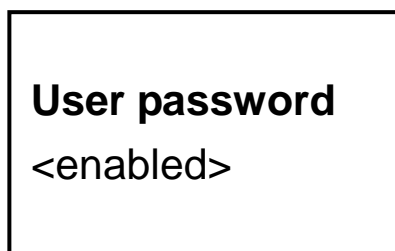

Fig. 4-10
- 4). After entering the password, press  button. LCD will display the submenu of “**Settings**” (Fig. 4-10).
After you access the “**Settings**” submenu, LCD displays as Fig. 4-10. The value of “**User password**” will be “<enabled>” or “<disabled>”. And “<enabled>” means you can change the values of “**Settings**” submenu items. “<disabled>” means you can’t. It depends on whether you have entered the right password and the UPS status (we are not allowed to change the values of “**Settings**” when UPS is in “**Line Mode**” or “**BAT Mode**”).